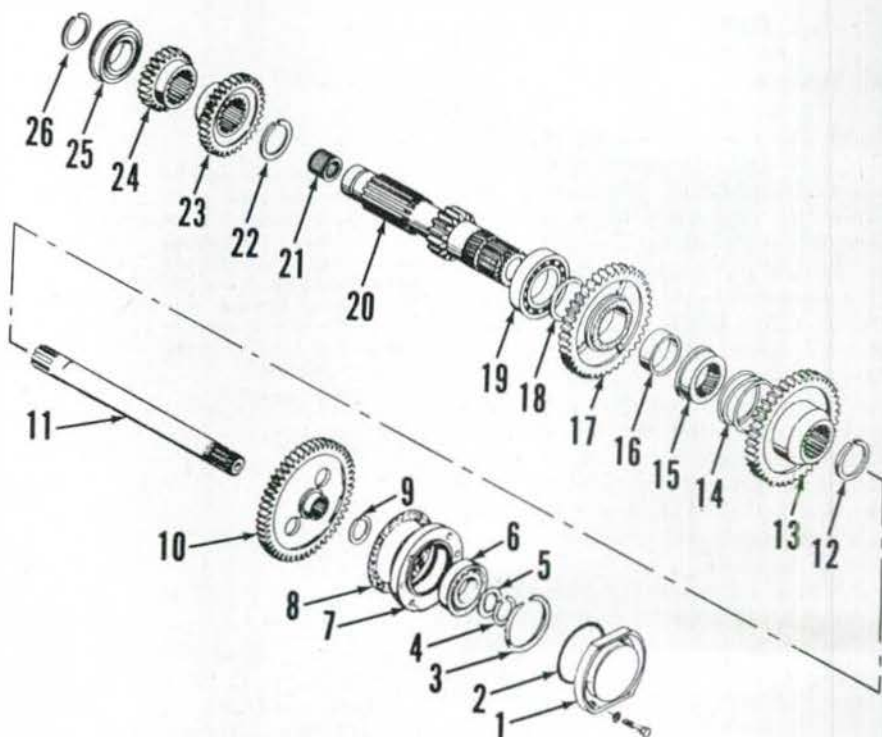

Fig. 153—Exploded view of lower pto shaft and transmission countershaft with associated parts used in Multi-Power transmission.
155. To remove pto lower shaft (11—Fig. 153), first remove transmission assembly as outlined in paragraph 145. Remove clutch throwout bearing, fork and shaft and the brake pedal cross shaft from front of pto shaft. Thread two cap screws into tapped holes in bearing retainer (7) and tighten evenly to force retainer with bearing off front of shaft. Withdraw pto shaft rearward from transmission housing. Pto drive gear (10) can be removed from housing after removing mainshaft as outlined in paragraph 152 and transmission input shaft as outlined in paragraph 154.
156. To remove countershaft (20—Fig. 153), first remove transmission assembly